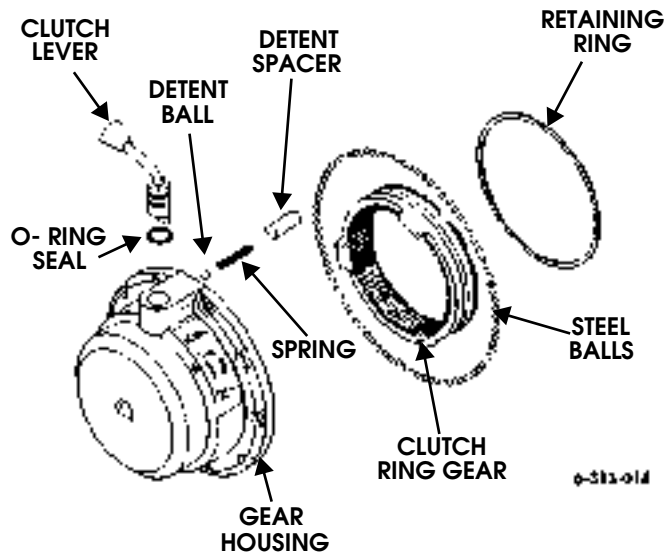

Figure 9-172: Intermediate Ring Gear and Gear Housing
1. Position 85 to 87 steel balls in groove of intermediate ring gear and install intermediate ring gear in gear housing (Figure 9-172).